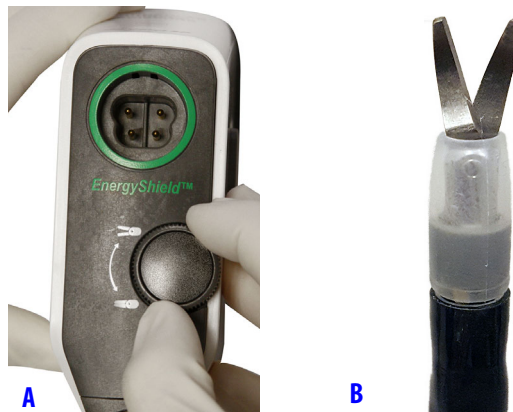

Figure 5.9 Rotate Grip Release Dial (A) to open and close scissor blades (B)
- Rotate the Grip Release Dial in both directions to confirm that the scissor blades open and close (Figure 5.9 A and B).